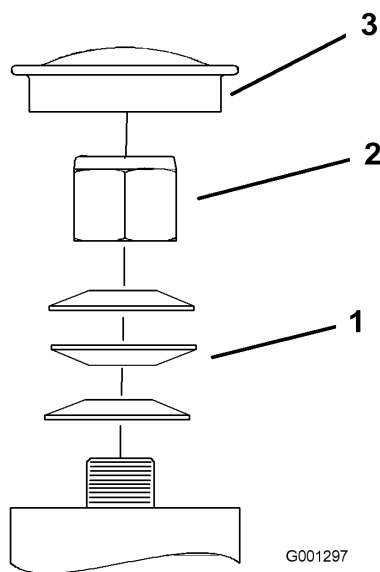

Figure 49
3. Remove the dust cap from caster and tighten lock nut (Figure 49).
4. Tighten the locknut until the spring washers are flat and then back off a 1/4 turn to properly set the pre-load on the bearings (Figure 49).
Important: Make sure spring washers are installed correctly as shown in Figure 49.
5. Install the dust cap (Figure 49).